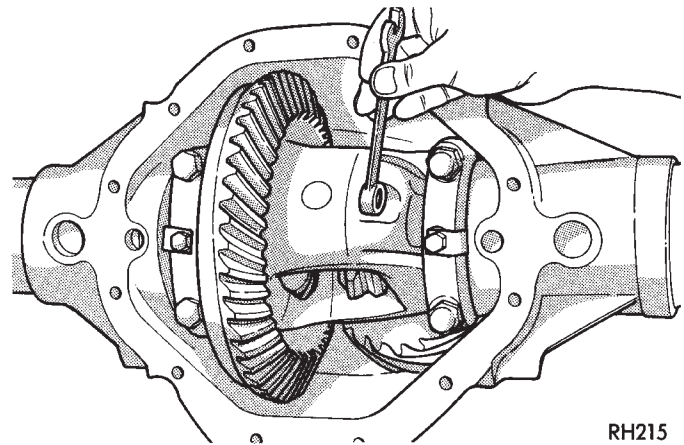

Fig. 3 Pinion Mate Shaft Lock Screw
- (1) Raise and support the vehicle.
- (2) Remove the wheel and tire.
- (3) Remove the brake drum.
- (4) Clean all the foreign material from housing cover area.
- (5) Loosen the housing cover bolts and drain the lubricant from the housing. Remove the housing cover.
- (6) Rotate the differential case so that the pinion mate gear shaft lock screw is accessible. Remove the lock screw and the pinion mate gear shaft from the case (Fig. 3).
- (3) Insert the pinion gear mate shaft in the case. Install through the thrust washers and pinion gears. Align the hole in the shaft with the lock screw hole. Install the lock screw with Loctite® on the threads. Tighten the screw to 11 N·m (8 ft. lbs.) torque (Fig. 3).
- (4) Clean the cover and apply a bead of sealant. Refer to the Drain and Refill in this section.
- (5) Install the brake drum and wheel and tire.
- (6) Raise or lower the hoist until the vehicle is level.
- (7) Remove the fill hole plug. Fill the differential housing with lubricant. Refer to the Specifications chart for the type and the quantity. Install the fill hole plug.
- (8) Lower the vehicle and test the brakes and axle for correct operation.